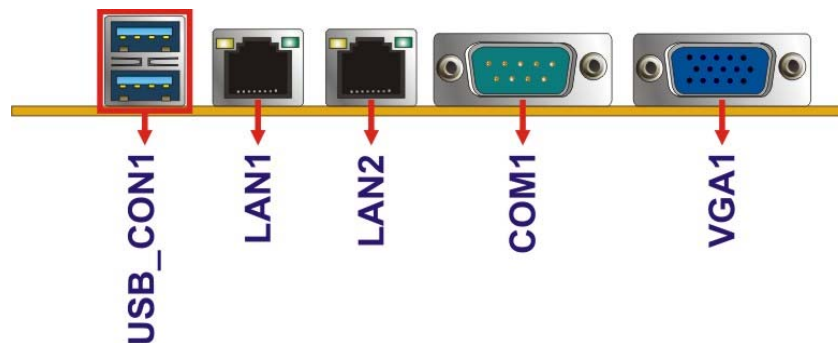

Figure 3-29: External Interface Connectors
CN Location: See **Figure 3-29**
Table 3-30: USB 3.0 Port Pinouts**3.3.3 Serial Port Connector (COM1)****CN Label:** COM1**CN Type:** DB-9**CN Location:** See **Figure 3-29****CN Pinouts:** See **Table 3-31**
- CN Location:** See **Figure 3-29**